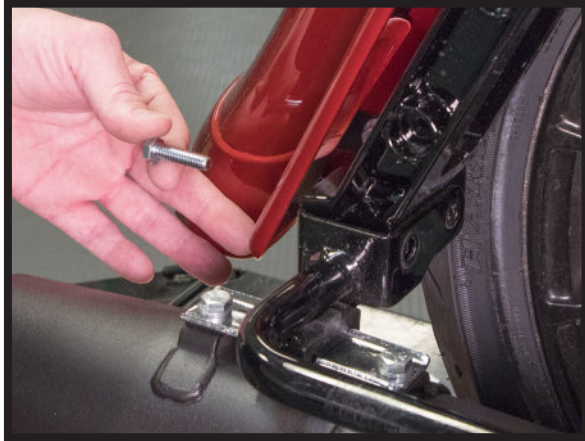

FIGURE 9
4. MOUNT THE COMPRESSOR TO THE FRAME WITH THE 5/16 BOLT, LOCK NUT, THE LARGER OE BOLT, AND OE NUT. TIGHTEN BOTH BOLTS. (FIGURE 9, 10, 11, 12)